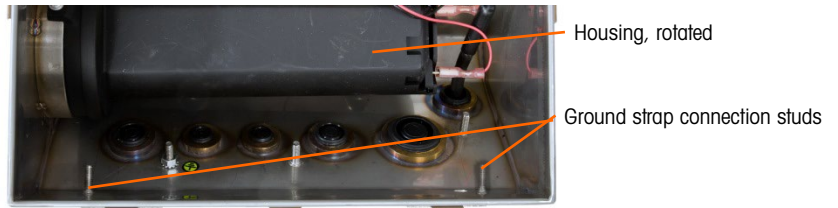

Figure A-9: Housing Reversed
6. Carefully rotate the housing 180 degrees and use the nuts removed in step 4 to reattach the two grounding straps to the studs near the grip bushings (Figure A-9). Tighten the two nuts.